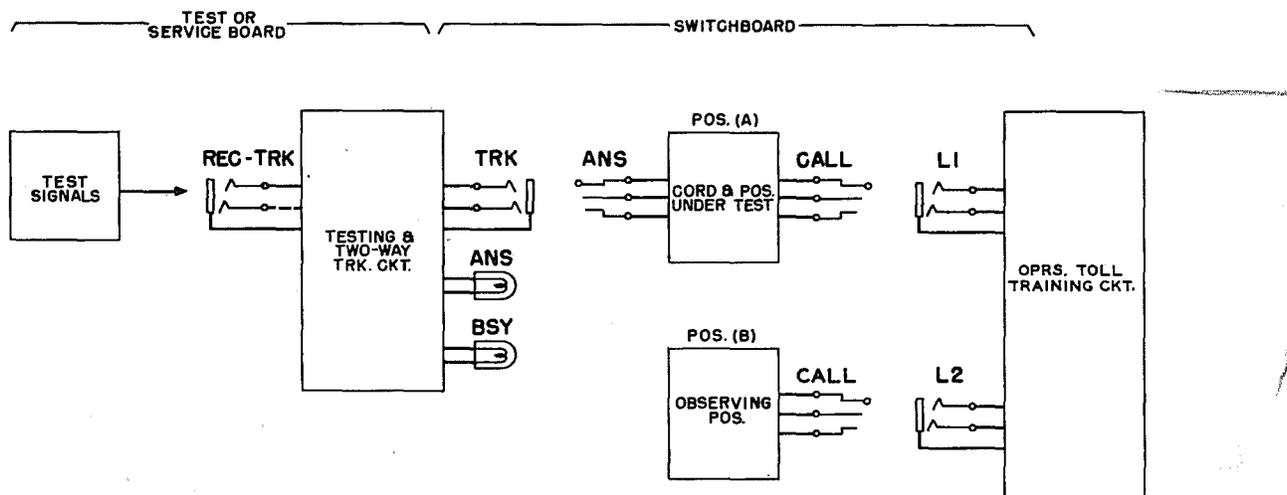

FIG. 1 - Cord and Position Ckt. Operation Test (Test B)
- (A) Cord-circuit Bias Test. *TTB*
- (B) Cord- and Position-circuit Operation Tests using Operator's Intertoll Trunk Training Circuit or Two Spare Intertoll Trunk Circuits. (Fig. 1)
(B) Cord- and Position-circuit Operation Test Using Operator's Toll Trunk Training Circuit or Two Spare Intertoll Trunk Circuits (Fig. 1)
3.04 Arrange with the telegraph test or service board to patch a source of test signals to the REC-TRK jack of the testing and 2-way trunk circuit as illustrated on Fig. 1.